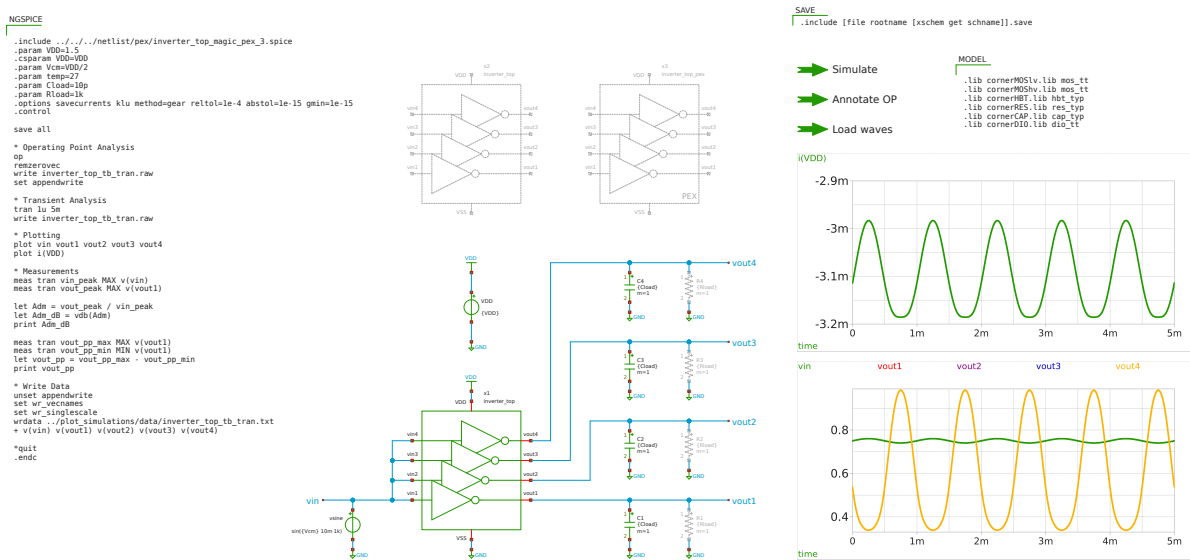

Figure 11: Xschem top-level testbench inverter_top_tb_tran (transient on inverter_top).
- inverter_top_tb_tran.sch, top-level transient on inverter_top (see Figure 11).